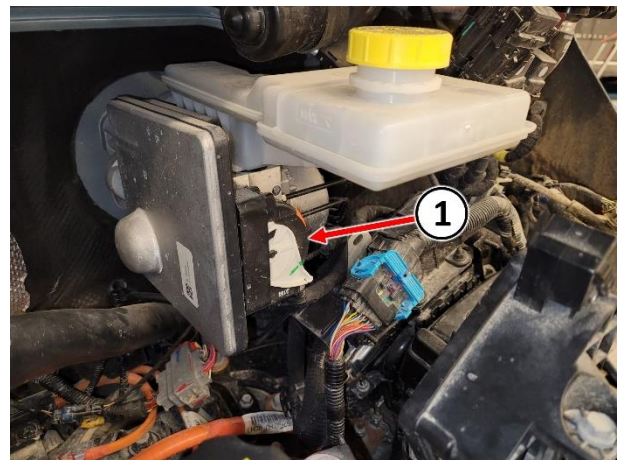

Figure 3 – ABS Connector
22. Under vehicle hood, disconnect the Antilock Brake System (ABS) module electrical connector (1) (Figure 3).
31. Reconnect the ABS electrical connector (1) (Figure 3).